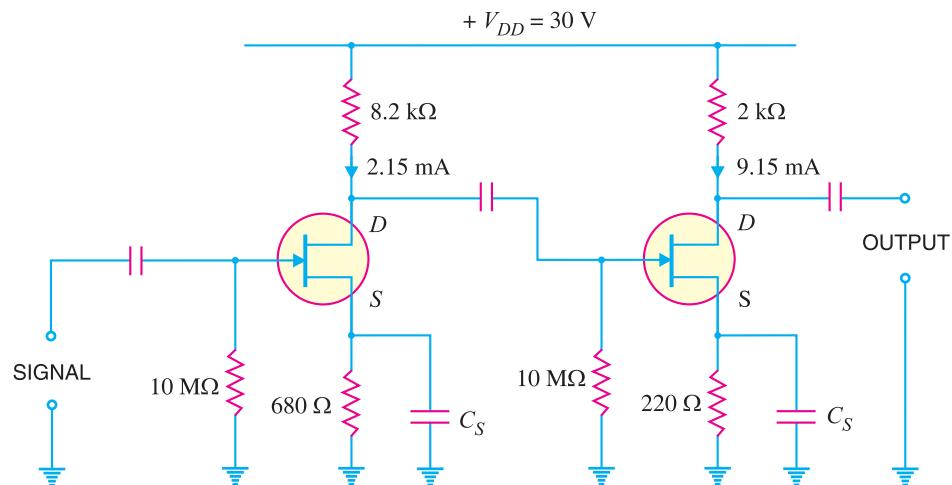

Fig. 19.25
**Example 19.19.** Figure 19.25 shows two stages of JFET amplifier. The first stage has  $I_D = 2.15\text{mA}$  and the second stage has  $I_D = 9.15\text{mA}$ . Find the d.c. voltage of drain and source of each stage w.r.t. ground.